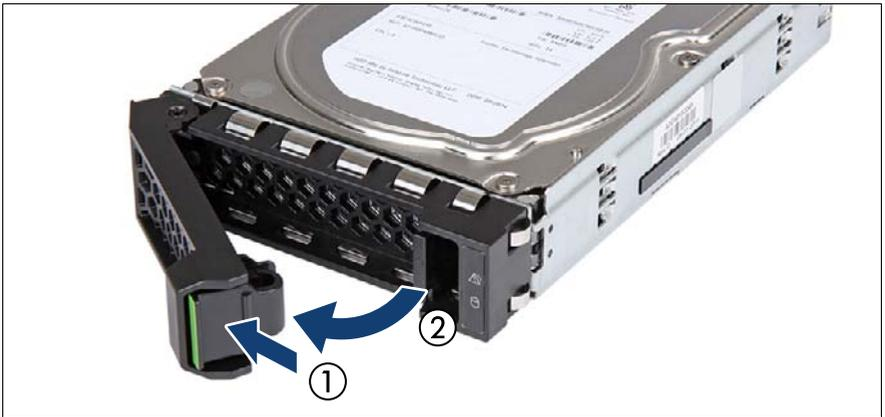

Figure 99: Opening the 3.5-inch HDD module locking lever
- ▶ Pinch the green locking clips and open the locking lever (see figure 99).